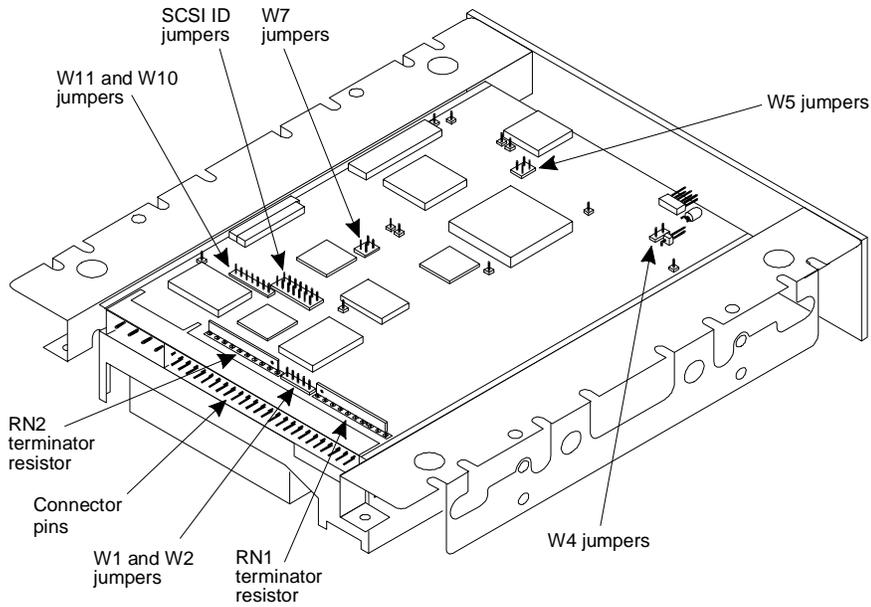
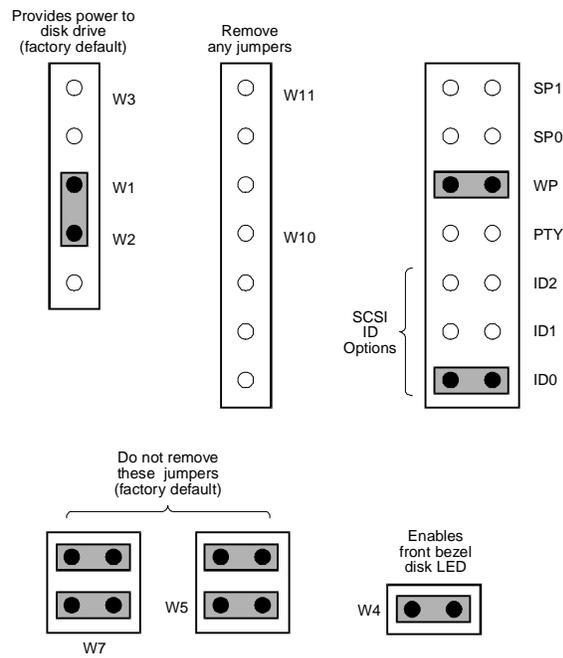

Figure 10-4. 1.7-Gbyte SCSI Hard Disk Drive
Figure 10-6. Jumper Settings for the Second 1.7-Gbyte Disk Installed, SCSI ID 1
- **1.7-Gbyte SCSI disk drive** — Refer to Figure 10-4 through Figure 10-6 for the jumper settings.